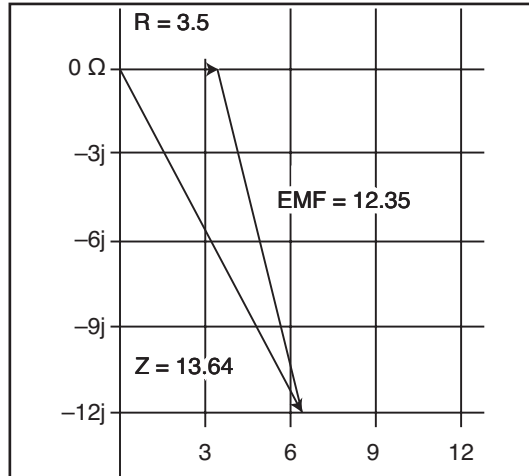

Figure 12: The vector diagram summarizes impedance at  $f_2$ , above resonance.
**Figure 12** shows the vector diagram of the unit's impedance at  $f_2$ , with R and EMF adding up to Z. Above resonance, the impedance is decreasing